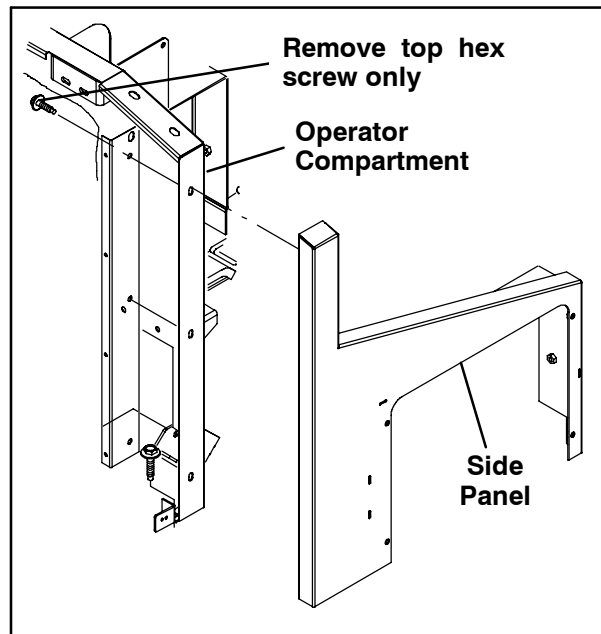

FIG. 3
- Remove the hex screw holding the top of the side panel to the operator compartment. Refer to Fig. 3.